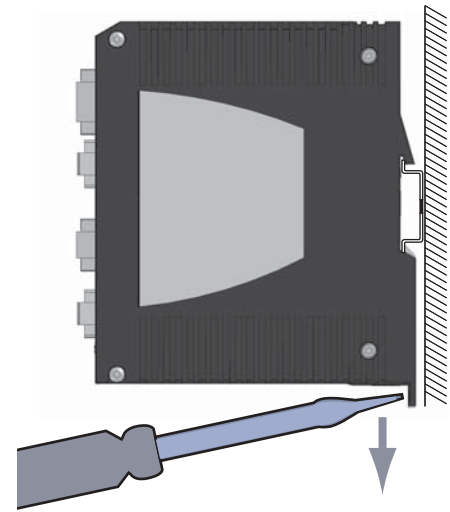

Fig. 3: Removing the device (here: RSR20/RSR30) from the rail (RSR wall mounting plate)
- insert a screwdriver horizontally under the housing into the locking slide, pull it (without tipping the screwdriver) downwards and lift the device upwards (see Fig.3).